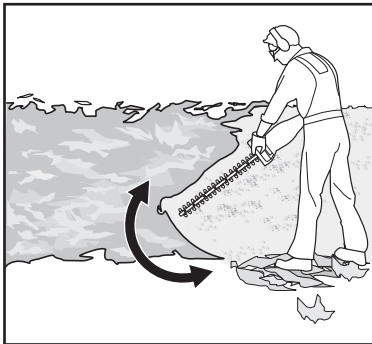

Fig. 7
1. Make sure that the blade cover (11) is removed, and the battery pack (12) is assembled before operation.
4. Always hold the product firmly with both hands on front handle (4) and rear handle (6). Never operate this product using only one hand.
6. First cutting both sides from the bottom upwards to the top. This will prevent any of the cuttings falling into the path of the area still to be cut (Fig. 7).